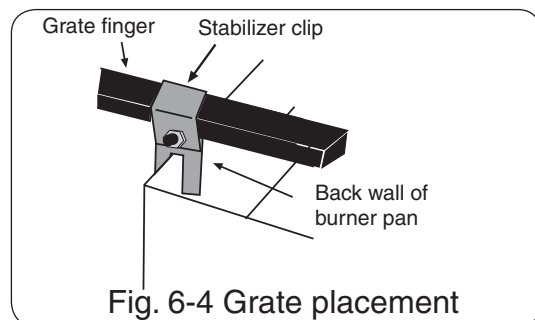

Fig. 6-4 Grate placement
- Place the grate over the burner pan so the stabilizer clips sit over back edge of the burner pan (see Fig. 6-4).